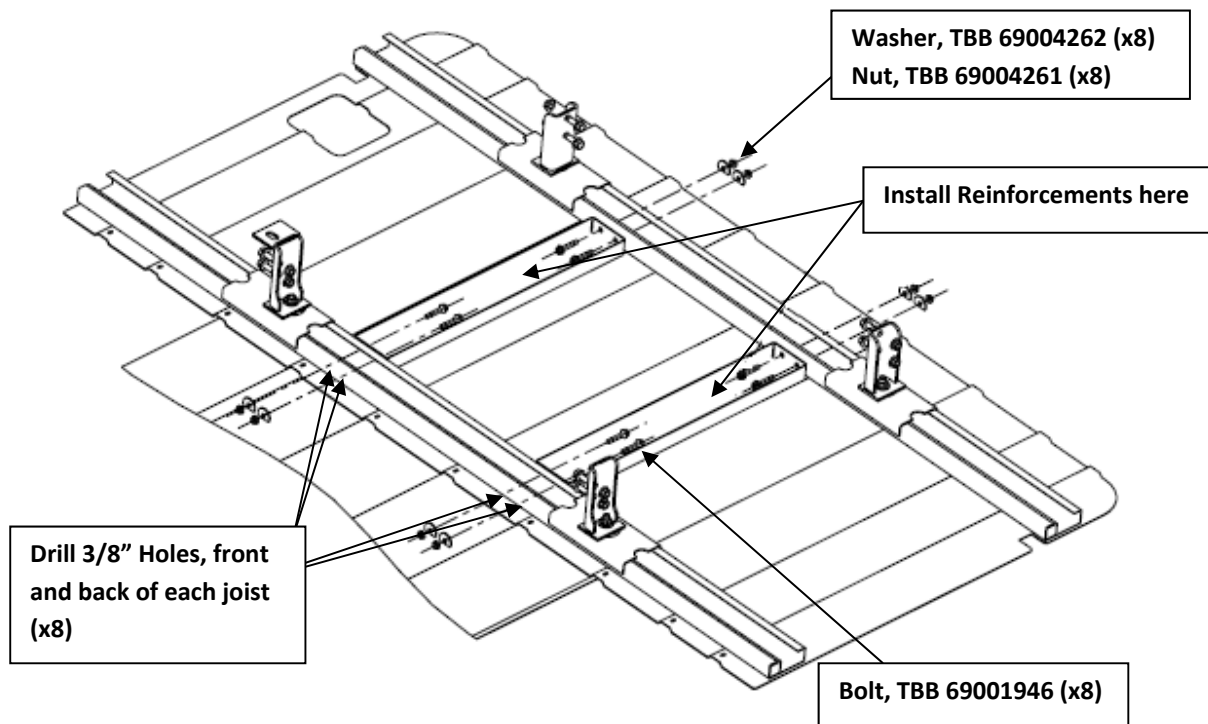

Figure 1
3. Position the reinforcement with the bend side down in the location shown in the installation diagram below that matches the bus. (See **Figure 1** below and diagrams at the end of these Work Instructions.)
5. Drill eight (8) 3/8" holes in the front side of the last joist and the back side of the second to last joist so that the reinforcements can be installed in the proper location. **Note: Each set of two holes must be drilled all the way through each joist. Figure 1**